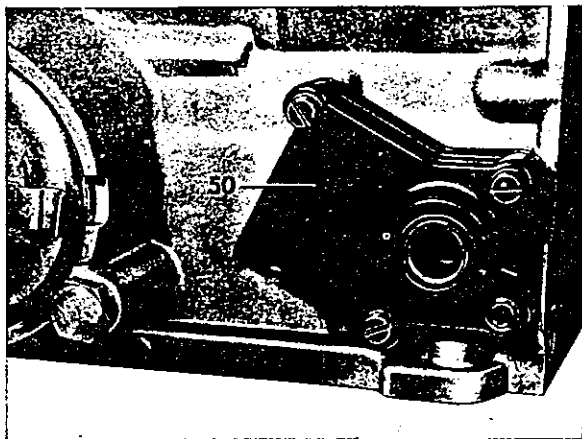

Fig. 21
29 Loosen attachment bolts and remove starter lock-out and back-up light switch (50) Fig. 21